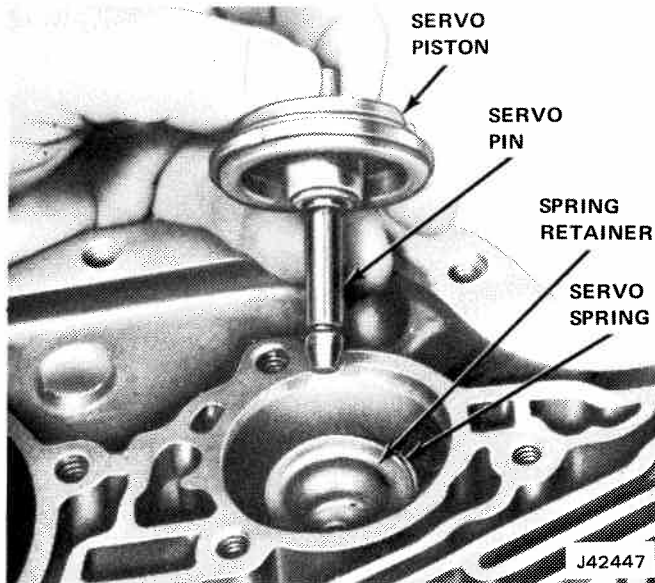

Fig. 7-17 Removing-Installing Front Servo Piston
(5) Remove front servo piston, washer, pin, retainer, and spring from transmission case, as shown in fig. 7-17.